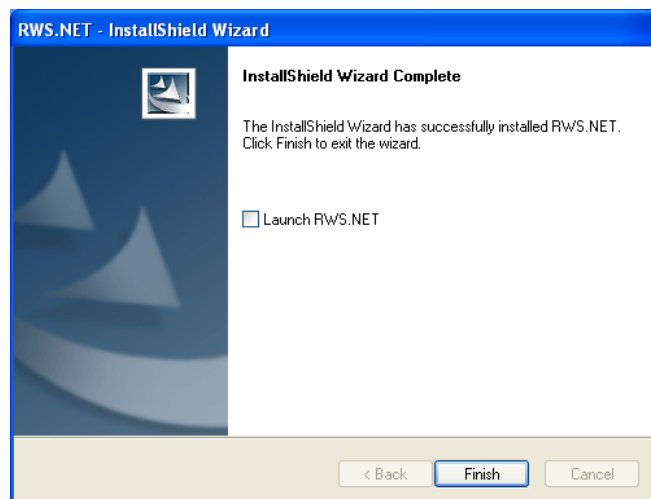

Figure A-12: InstallShield Wizard Complete
6. Click **Install** and wait until the *InstallShield Wizard Complete* window indicates the process is complete (Figure A-12).
7. Uncheck **Launch RWS.NET** (Figure A-12), and then click **Finish** to exit the installation.